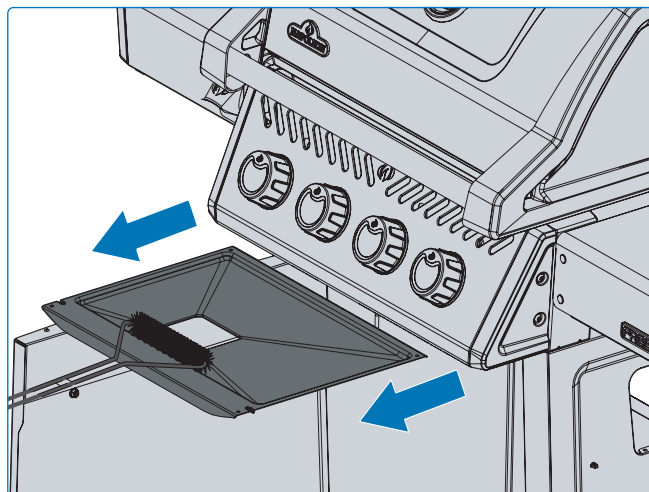

Fig. 23
- Clean the drip pan every 4–5 uses to prevent grease buildup (**Fig 23**).